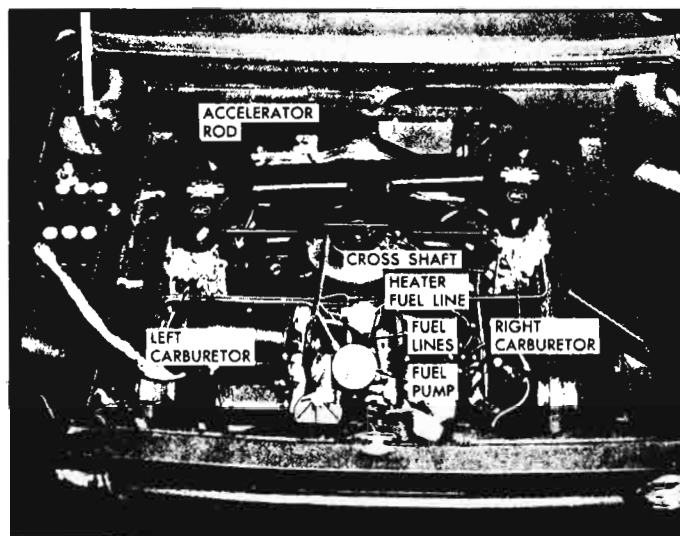

Fig. 9-6—Carburetion System
1. Remove wing nut attaching each air cleaner to each air cleaner support. Release air cleaner holding clamp (fig. 9-6) and remove air cleaner assemblies.